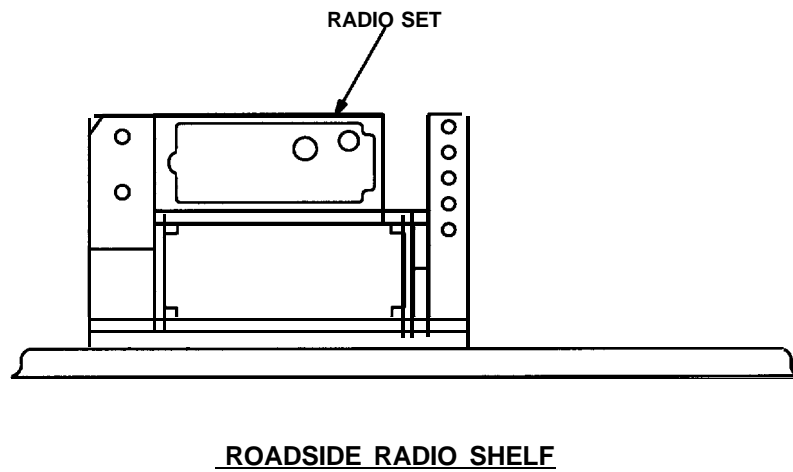

Figure 5-1 (2). MK and Radio Installation: Radio Equipment Locations
5.1.1 Installation of Antenna Base. Use the following procedures to install antenna base. See figures 5-1(1) for location. Remove around strap from antenna base(s).